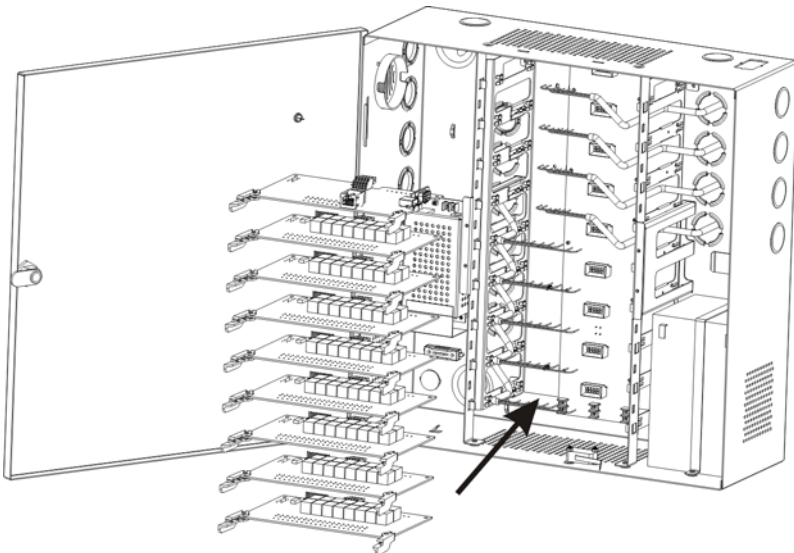

Figure 37: ME-00 Units Placement
4. Slide and secure the individual units into the designated slots, ensure that each unit is secured in place to receive the power and communication directly from the rack as shown in Figure 37, on page 46.